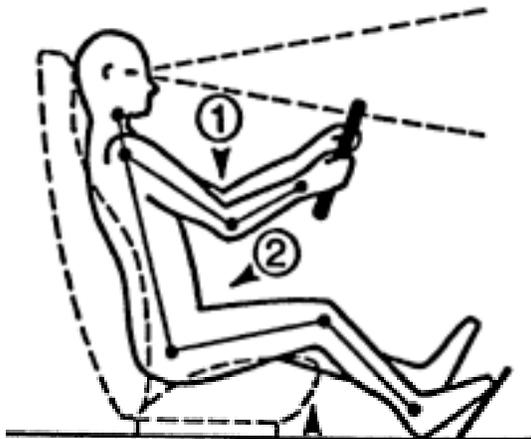

Fig. 1
1. Sit IN the seat, not on it. (Fig. 1) The small of the back should be pushed into the seat.